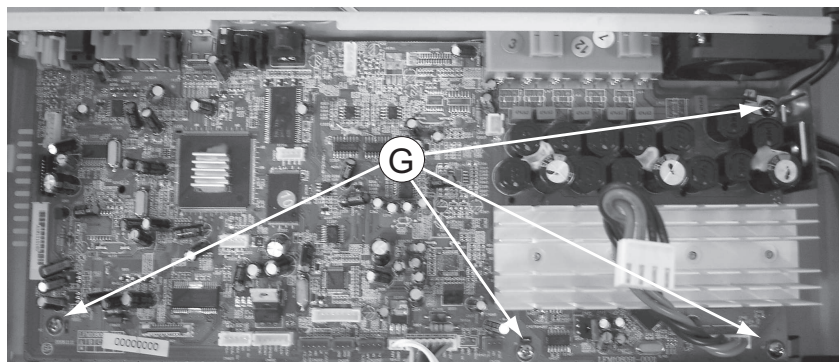

Figure 11
- 1) Loosen 4 screws “G” on the top of Main Board as shown in figure 11.